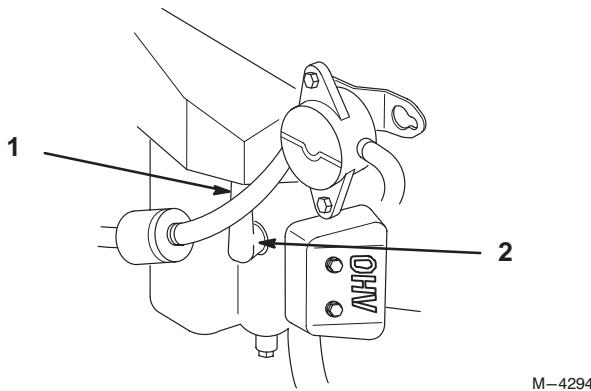

Figure 23
- Pull the wire(s) off of the spark plug(s) (Fig. 23). Clean around the spark plug(s) to prevent dirt from falling into the engine and potentially causing damage.
3. Push the wire(s) onto the spark plug(s) (Fig. 23).